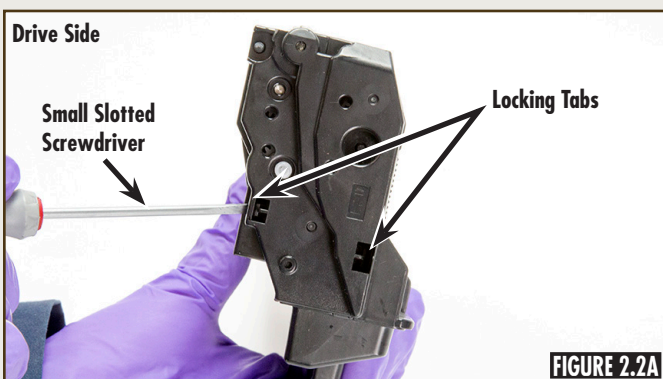

FIGURE 2.2A
Use a small slotted screwdriver to release the three (3) locking tabs on contact side and the two (2) on drive side (Figures 2.2A and 2.2B). After the tabs are released, remove hopper end plates.